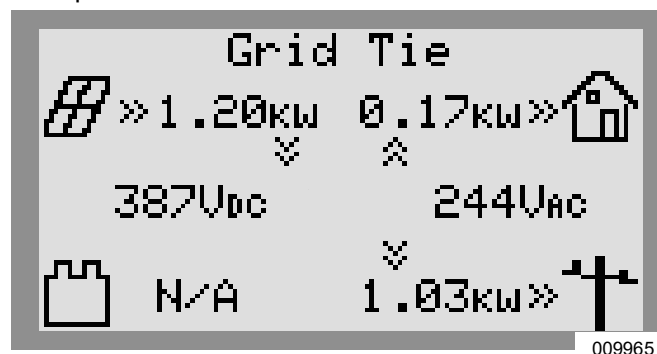

Figure 3-3. Selecting System Modes (1 of 5)
1. See Figure 3-3. While viewing the home screen press the center button.